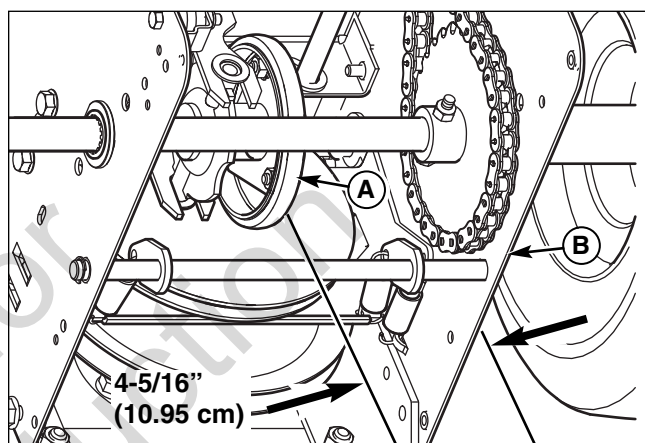

Figure 24. Friction Disc Measurement
8. Note the position of the friction wheel (A, Figure 24). The correct distance from the right side of the friction wheel to the outside of the frame is 4-5/16" (10.95 cm). If the friction wheel is not in the correct position, adjust as follows.
9. Move the friction wheel (A, Figure 24) to the correct distance, 4-5/16" (10.95 cm).